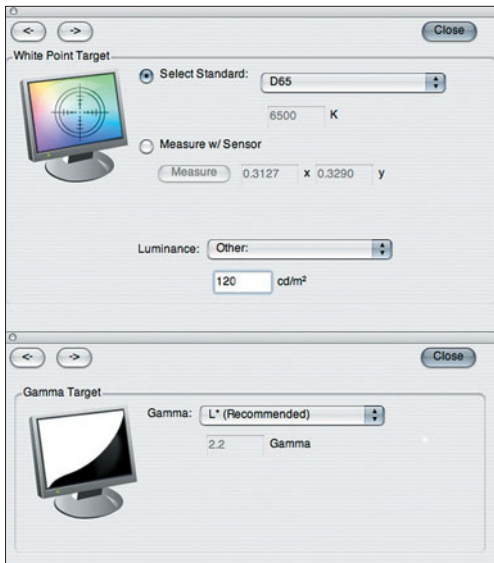

Figure 3.10 I have set the white balance to the D65 standard, chosen a luminance of 120 cd/m², and selected L* as my gamma target.
ColorEyes Display Pro also allows for the use of an L^* gamma target, seen in Figure 3.10, in addition to the more traditional 1.8 and 2.2 gamma tonal response curves. L^* is based on the CIELAB/CIELUV color models and was designed to provide a transition from black to white that more closely mimics our visual perception of brightness.
1. Set the white balance, luminance, and gamma settings for the calibration (see Figure 3.10).